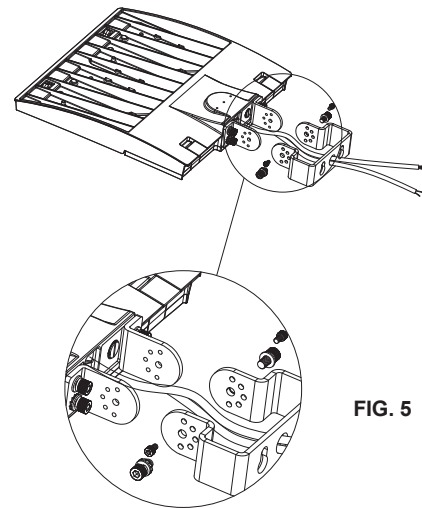

FIG. 5
1. Lock the mounting and housing in place using four supplied M8x20mm machine thread screws, six M8 spring washers, six M8 flat washers and three and a M8 external tooth in place washer at torque setting 9.6NM. (See Fig. 5 & 6)